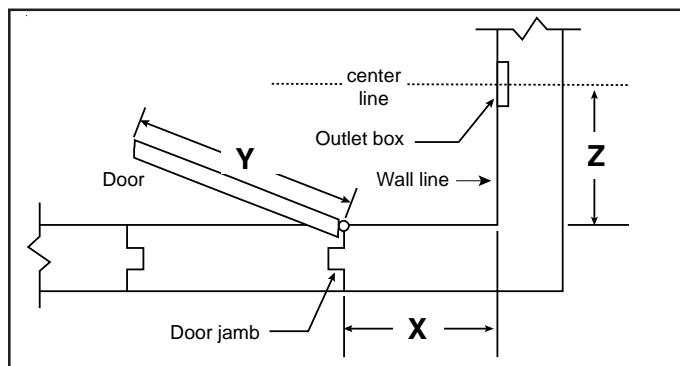

Figure 1. Locating the Door Holder
1. Using Figure 1 and Table 2, locate the intersection of Dimension X and Dimension Y. Dimension Z is shown at the intersection in the gray area.